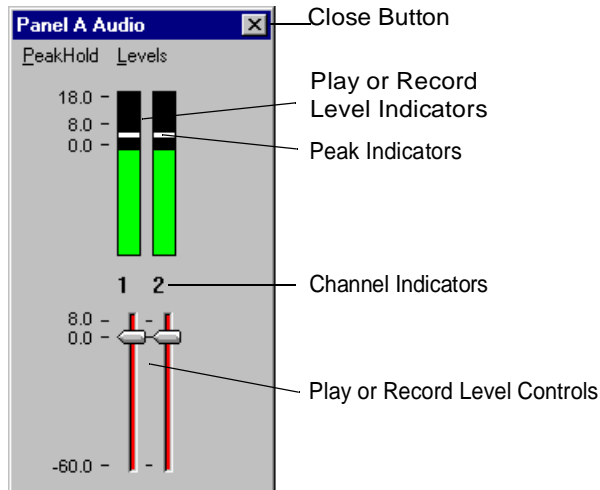

Figure 9. Audio Monitor dialog box
2. Choose **Window | Audio Monitor**. The Audio dialog box appears, as shown in Figure 9. There are only two channels in this example, but up to 32 channels are possible if the necessary boards are installed.